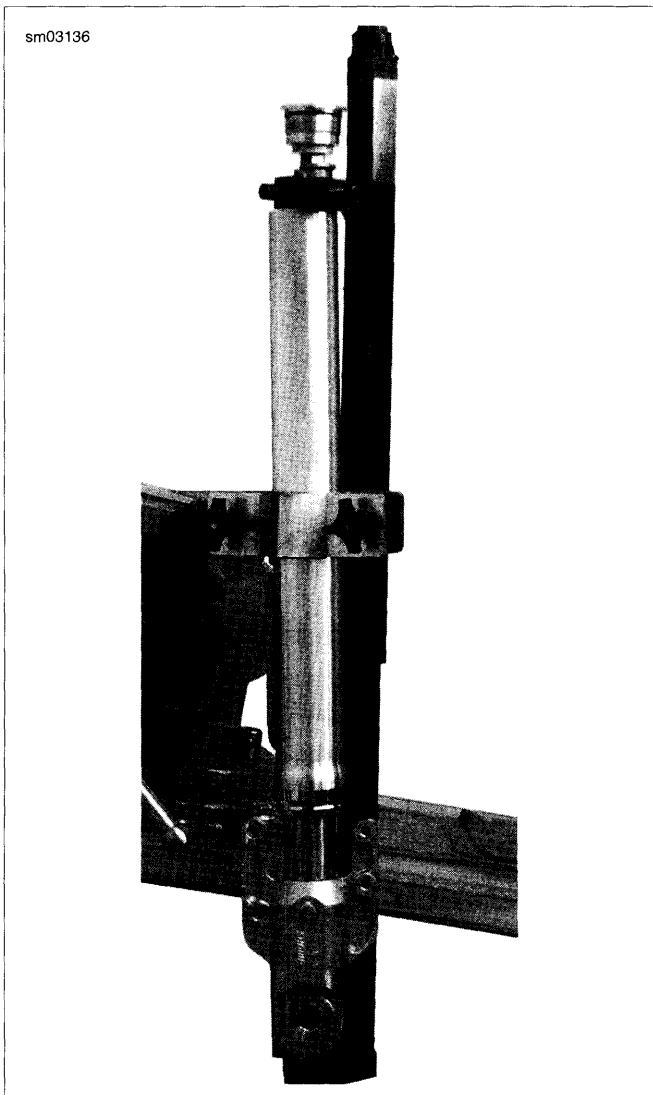

Figure 2-146. Compress Fork Assembly
3. See Figure 2-146. Compress fork using FRONT FORK COMPRESSOR (Part No. HD-45966).